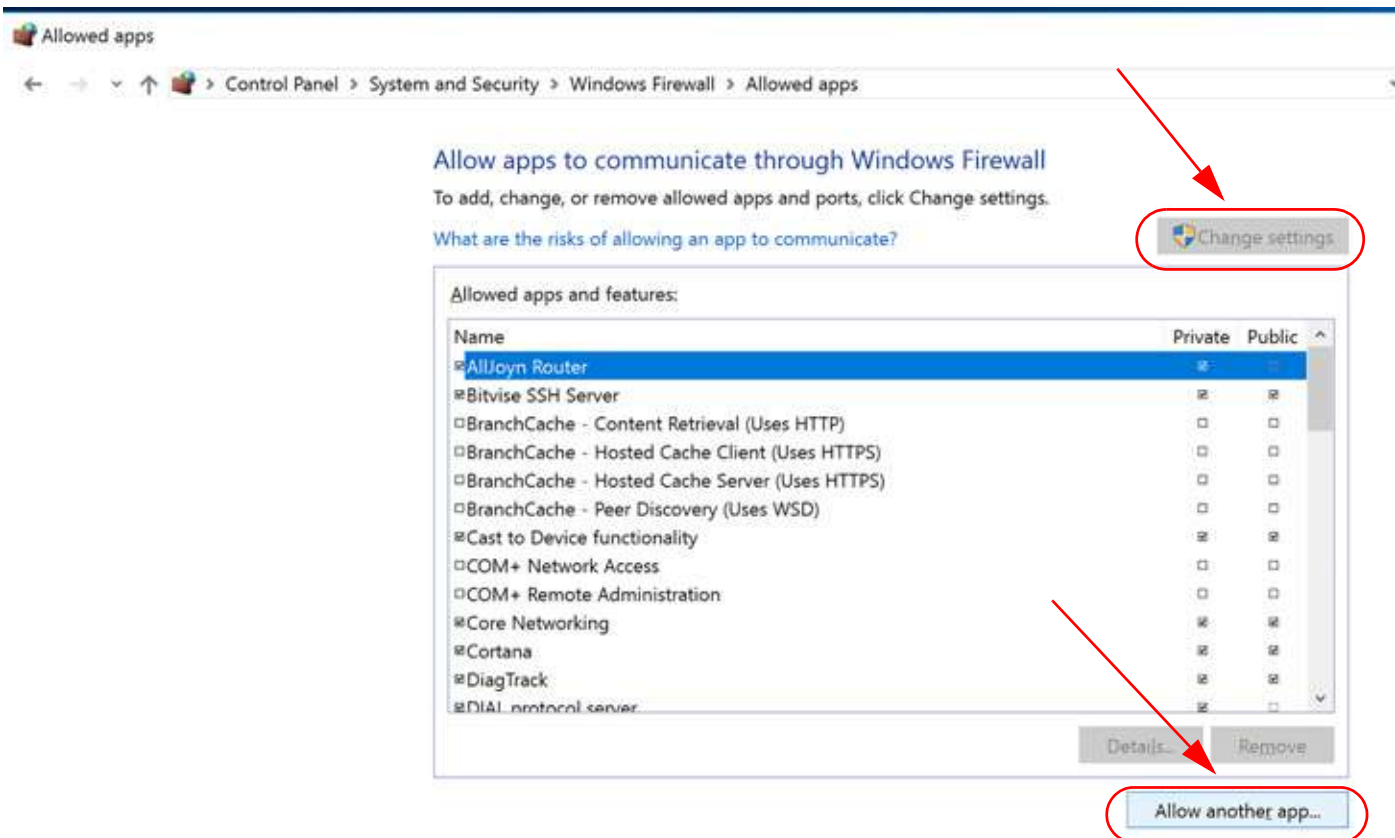

Figure 3.4: Windows Server 2016/2019: Change Settings -> Allowed Another app
4. From the Windows Firewall screen -> Allow apps to communicate through Windows Firewall, select "Change settings", then select "Allow another program". See Figure 3.4.